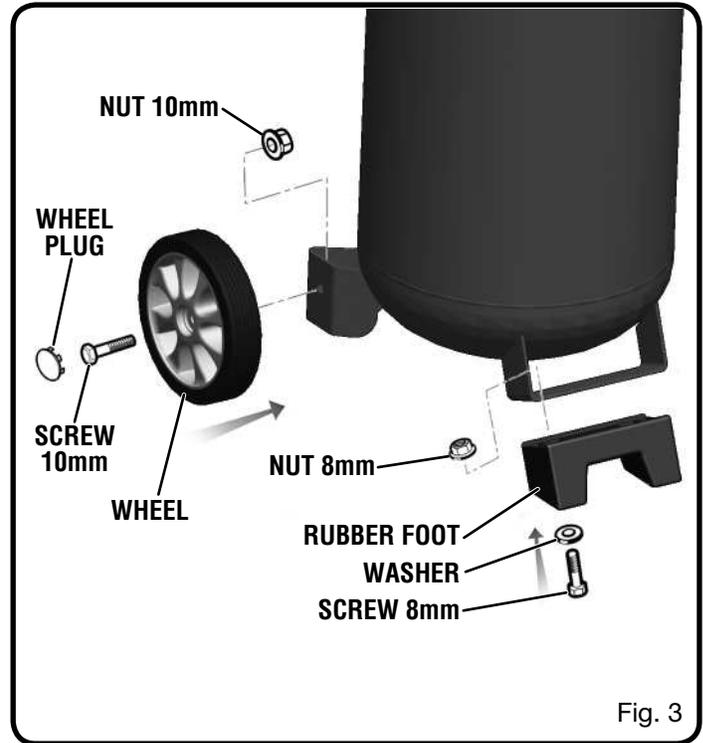

Fig. 3
See Figure 3.
- Mount the rubber foot as shown in figure 3. Tighten firmly with an open-end wrench (not included) to secure it in position.
- Screw 8 mm (2)
- Washer (2)
- Rubber Foot (1)
- Nut 8 mm (2)
- Mount the wheels as shown in figure 3. Tighten firmly with an open-end wrench (not included) to secure the wheels in position.